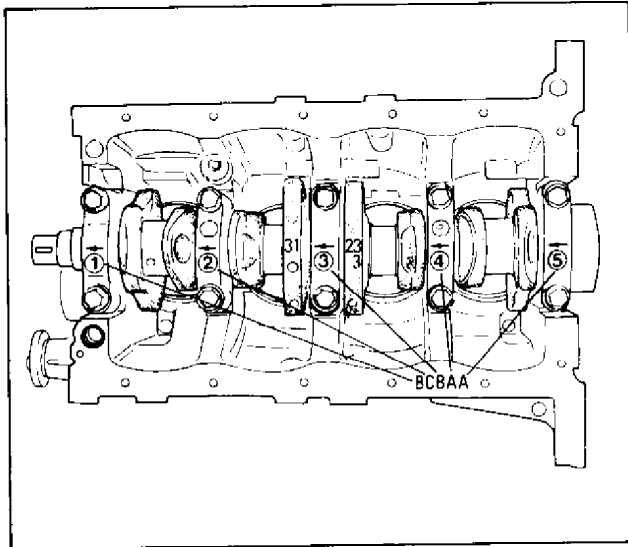

Fig. 6A-143 Stamped Alphabets on Cylinder Block
For example, in Fig. 6A-143, the first (leftmost) alphabet "B" indicates that cap bore dia. of bearing cap "1" is within 49.006 – 49.012 mm, and the fifth (rightmost) alphabet "A" indicates that cap bore dia. of cap "5" is within 49.000 – 49.006 mm.
3. There are five kinds of standard bearings differing in thickness. To distinguish them, they are painted in following colors at the position as indicated in Fig. 6A-144. Each color indicates following thickness at the center of bearing.